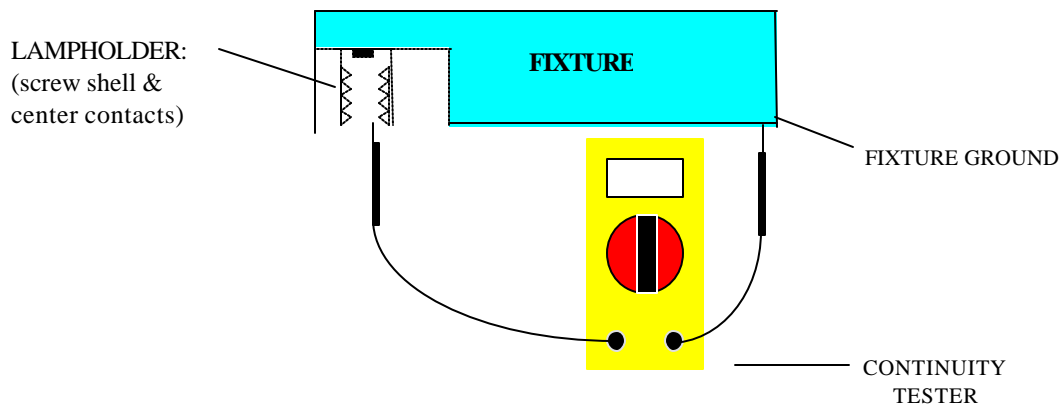

Figure 1: Continuity Measurement Diagram
- 1) Verify fixture lampholder leads **are not** connected to **neutral** or **ground** with a continuity tester. See Figure 1 below: